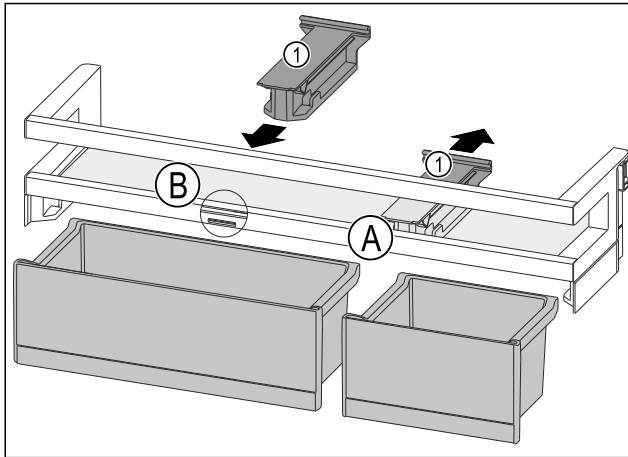

Fig. 118
- Take off the holding part Fig. 118 (1) in position Fig. 118 (A) backwards.
- Insert the holding part Fig. 118 (1) in position Fig. 118 (B).